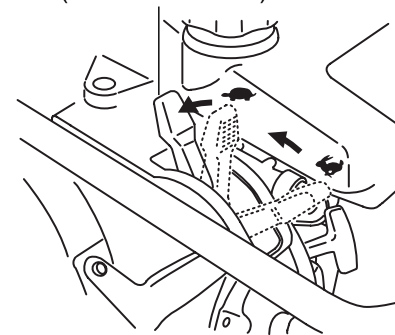

Figure 15. Throttle Lever (Stop Position)
1. Move throttle lever quickly from the **START** (↻) position to the **IDLE** (→) position (Figure 9) and run the engine for three minutes at low speed. After the engine **cools**, move the throttle lever to the **STOP** position (Figure 15). The engine will stop and the fuel cock is automatically closed.